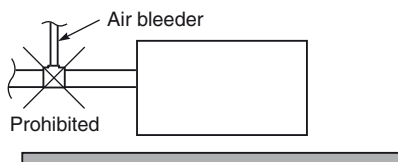

Fig.3-10
- Do not install an air bleeder as this may cause water to spray from the drain pipe outlet. (Fig. 3-10)